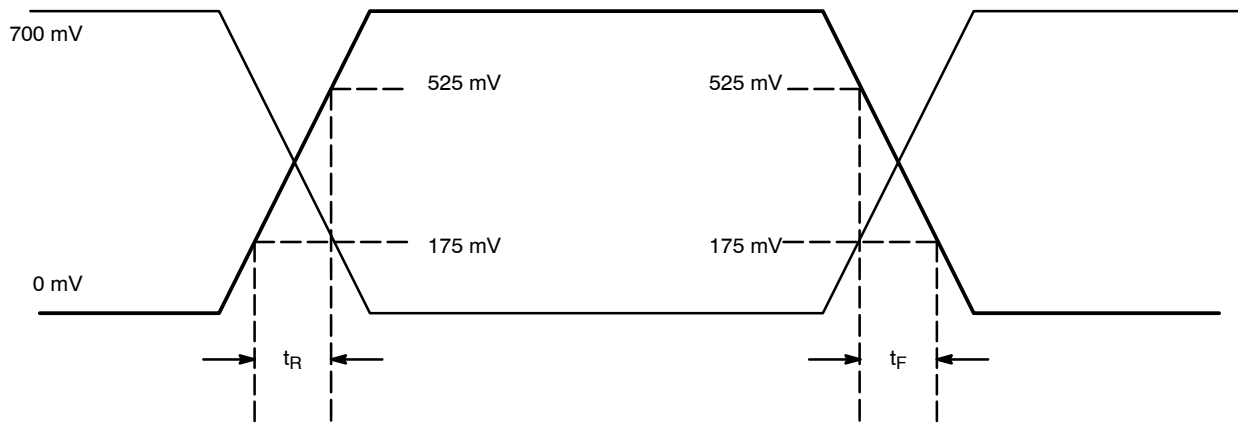

Figure 11. HCSL Output Parameter Characteristics
18. VDDXD and VDDODA power pins must be shorted to power supply voltage V_{DD} and GNDXD and GNDODA ground pins must be shorted to power supply ground GND. Measurement taken from differential output on single-ended channel terminated with $R_S = 33.2 \Omega$, $R_L = 50 \Omega$, with test load capacitance of 2 pF and current biasing resistor set at 475 Ω . See Figure 11. This parameter is guaranteed by characterization. Not tested in production.